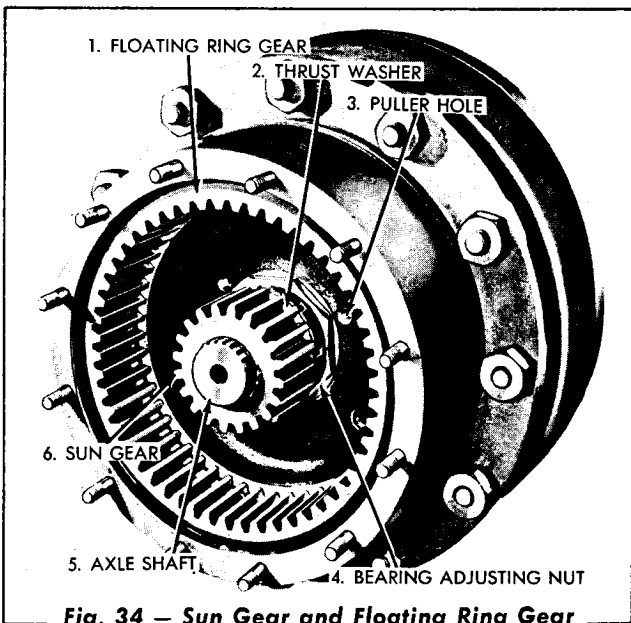

Fig. 34 — Sun Gear and Floating Ring Gear
- a. Remove the snap ring that retains the sun gear (Fig. 34).
- c. Remove the wheel bearing adjusting nut locks and remove the wheel bearing adjusting nut (Fig. 34). Threaded puller holes are provided in the ring gear hub flange that are used for the removal of the floating ring gear assembly.